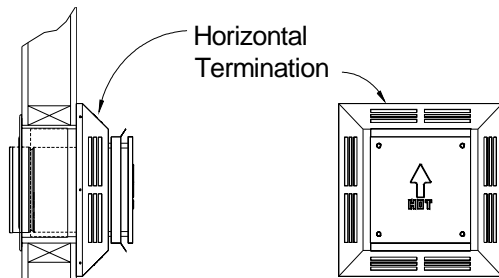
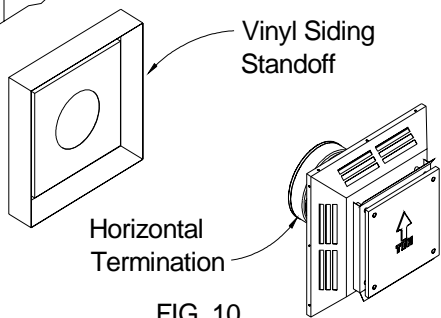

FIG. 9
FIG. 10
Make sure the arrow (embossed on the front of the termination) is pointing up (see Fig. 9). If the house has vinyl siding, a Vinyl Siding Standoff (VS) must be installed prior to installing the Horizontal Termination. Refer to the Appliance Manufacturer to determine if one is recommended. Attach the Vinyl Siding Standoff to the exterior side of the wall (making sure it is level and centered with respect to the opening) with screws (provided) at each corner of the Standoff. Attach the Horizontal Termination to the standoff (see Fig. 10).